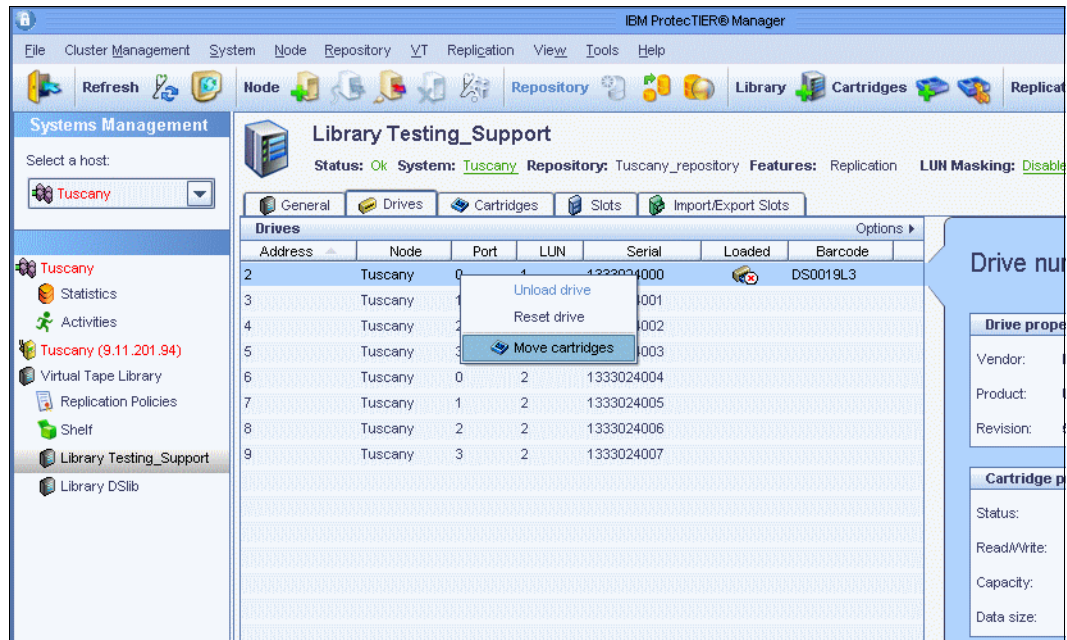

Figure 10-115 Select a drive that contains an unloaded cartridge
3. Select a drive that contains an unloaded cartridge (Figure 10-115).